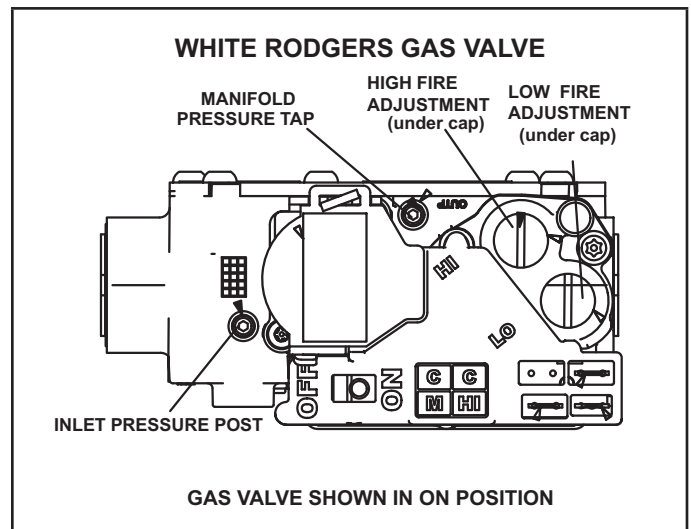

FIGURE 57
### Gas Valve Operation (FIGURE 57)
- 6 - Move gas valve switch to **OFF**. See FIGURE 57.
- 8 - Move gas valve switch to **ON**. See FIGURE 57.
An inlet pressure post located on the gas valve provides access to the supply pressure. See FIGURE 57. Back out the 3/32 hex screw one turn, connect a piece of 5/16 tubing and connect to a manometer to measure supply pressure. See TABLE 27 for supply line pressure.
A manifold pressure post located on the gas valve provides access to the manifold pressure. See FIGURE 57. Back out the 3/32 hex screw one turn, connect a piece of 5/16 tubing and connect to a manometer to measure manifold pressure.
- 5 - If necessary, make adjustments. FIGURE 57 shows location of high fire and low fire adjustment screws.